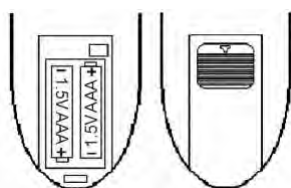
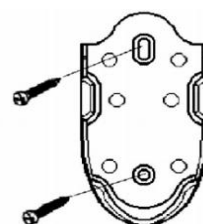

Fig. 3
Fig. 4
4. In order to replace the batteries, open the battery housing cover by sliding out the cover downward to the arrow shown direction, while pressing down the cover with your thumb. (1.5V/ AAA, 2PCS) (Fig. 3) Holder for transmitter: if desired, install onto the wall with screws. (Fig. 4)